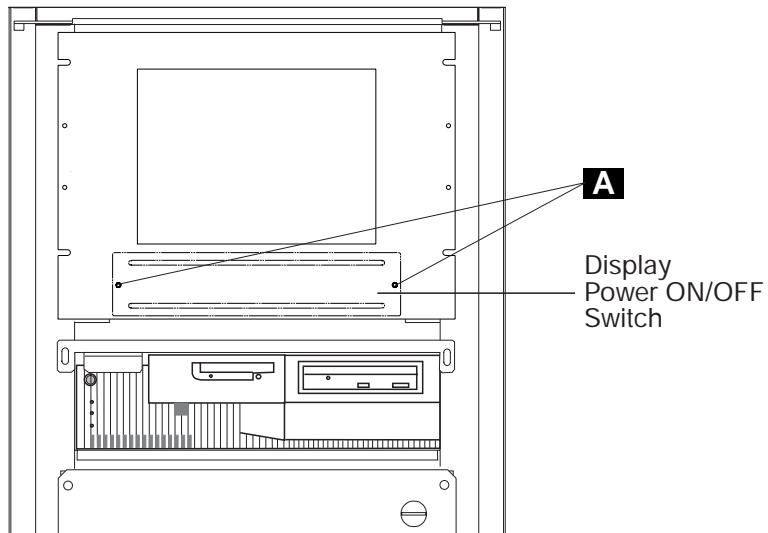

Figure 6-9. Display Power ON/OFF Switch
6. Switch ON the display using the power ON/OFF switch located on the front panel (see Figure 6-9 on page 6-8).